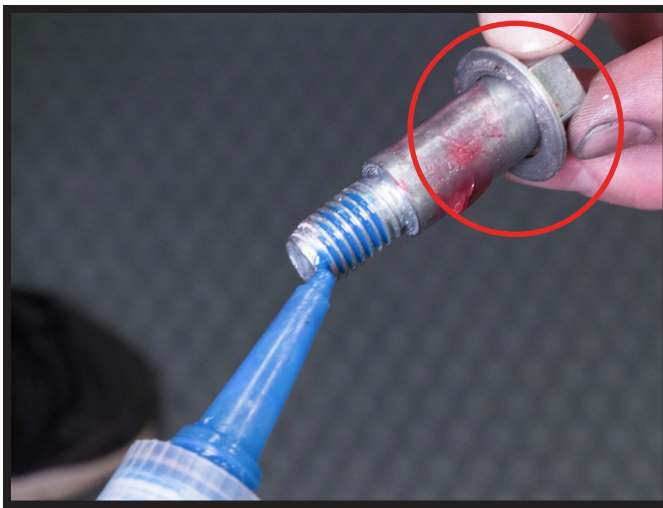

FIGURE 14
8. APPLY GREASE TO THE SHOULDER OF THE OE SHOCK BOLT AND BLUE LOCTITE TO THE THREADS. ATTACH THE AIR SPRING TO THE SWING ARM USING THE FACTORY RECOMMEND TORQUE. (FIGURES 14, 15)
The OE washer and bolt (Figure 14) **MUST** be installed together to avoid catastrophic damage.